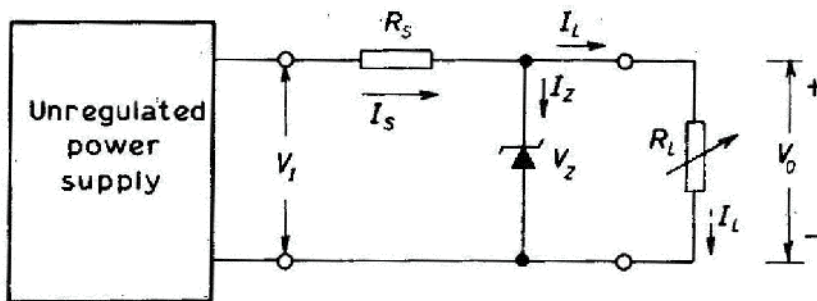

Fig. 4.18 Zener Voltage Regulator
Zener diodes are widely used as voltage references and as shunt regulators to regulate the voltage across circuits. A Zener diode can be used as a voltage regulator to provide a constant voltage from a source whose voltage may vary over the specified range. The circuit arrangement is shown in Fig. 4.18. It consists of a resistor connected in series with the input voltage and a zener diode connected in parallel with the load.
8. The figure 4.18 shows the circuit of a simple constant voltage supply using a Zener diode. The constant voltage value across the Zener diode is 5V. Find the current through 1kW load.